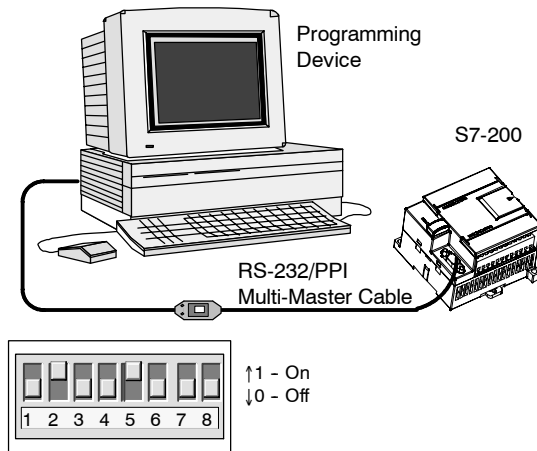

Figure 2-2 Connecting the RS-232/PPI Multi-Master Cable
Figure 2-2 shows an RS-232/PPI Multi-Master cable connecting the S7-200 to the programming device. To connect the cable:
3. Ensure that the DIP switches of the RS-232/PPI Multi-Master cable are set as shown in Figure 2-2.